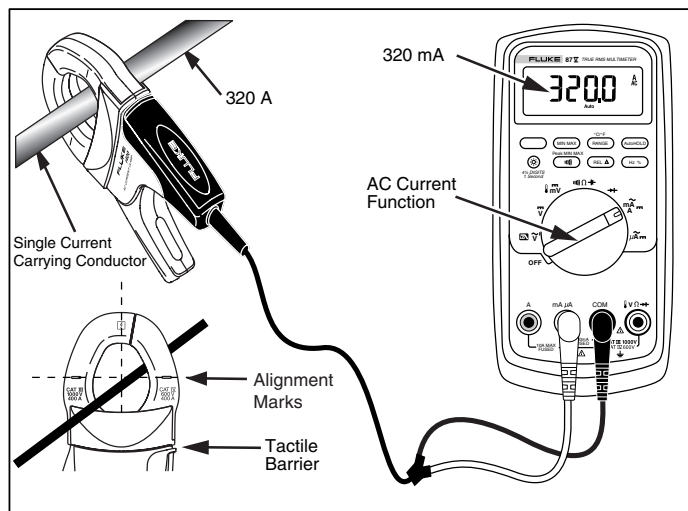

Figure 1. i400 Setup
To use the i400, (refer to Figure 1):
3. Clamp the i400 around the current-carrying conductor to be measured. Make sure the jaws are tightly closed around the conductor. The Current Clamp is designed for highest accuracy when the conductor is centered on the jaw's alignment marks, see Figure 1.
To avoid shock or personal injury, keep fingers behind the tactile barrier, see Figure 1.